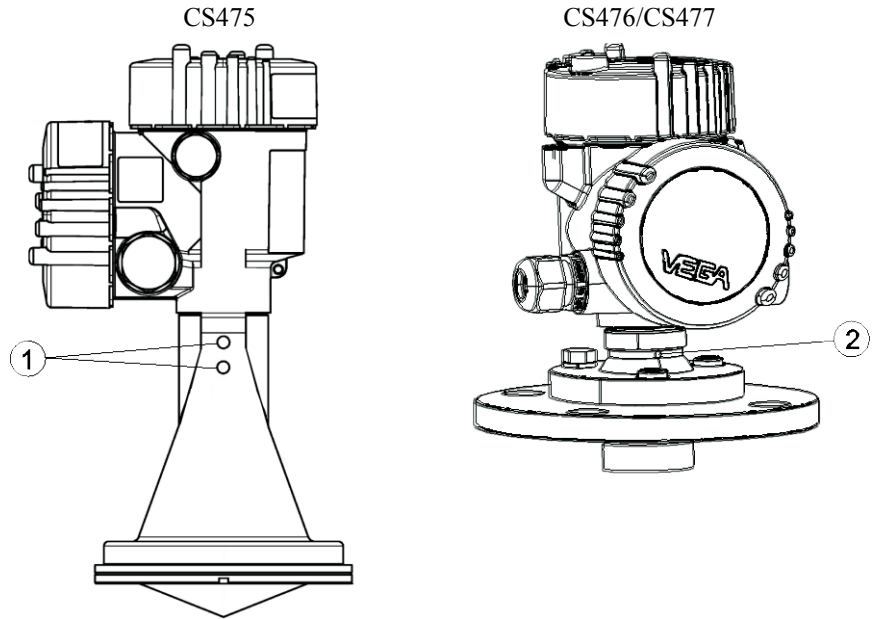

FIGURE 7-1. Polarization markings (see TABLE 7-3 for label descriptions)
5. Orient the sensor such that one of its polarization markings is aligned with the wall or pier (see FIGURE 7-1 and TABLE 7-3).